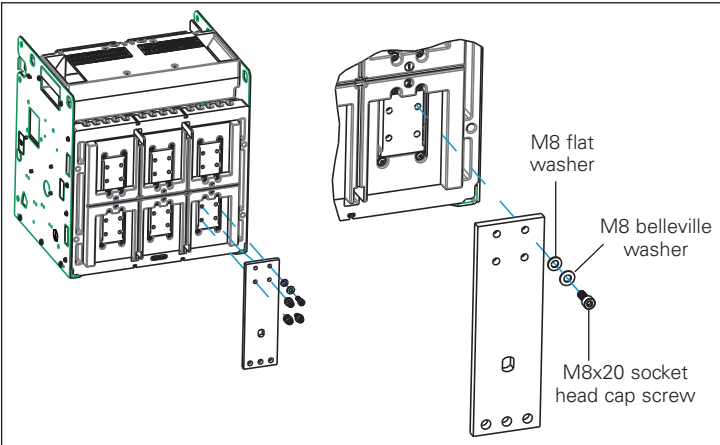

Figure 2. Step 1. Drawout Cassette
Step 1: Position the front bus adapters (stack adapters as needed for higher ratings) on the primary terminal pad as shown. Install the M8 hardware provided into the four mounting holes and hand tighten (Figures 2 and 2a). The number of front connect bars is dependent on the current rating: up to 1600A = 1x, up to 2500A = 2x, 3200A = 3x per flat connection.